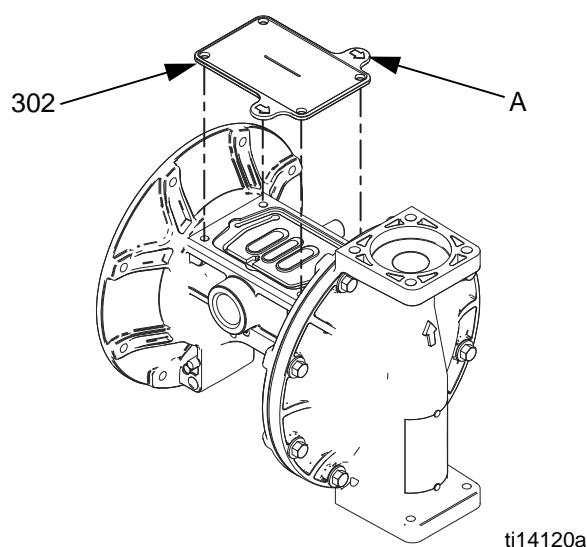

FIG. 8. Fluid cover tool
- c. Grease the shaft u-cups (106) and the length and ends of the diaphragm shaft (104). Slide the shaft into the housing.
- f. Reattach the first fluid cover (3). See **Torque Instructions**, page 16.
- a. See FIG. 8. Place the supplied tool (302) where the air valve gasket (108) normally goes. Arrows (A) must face toward the fluid cover that is already attached.